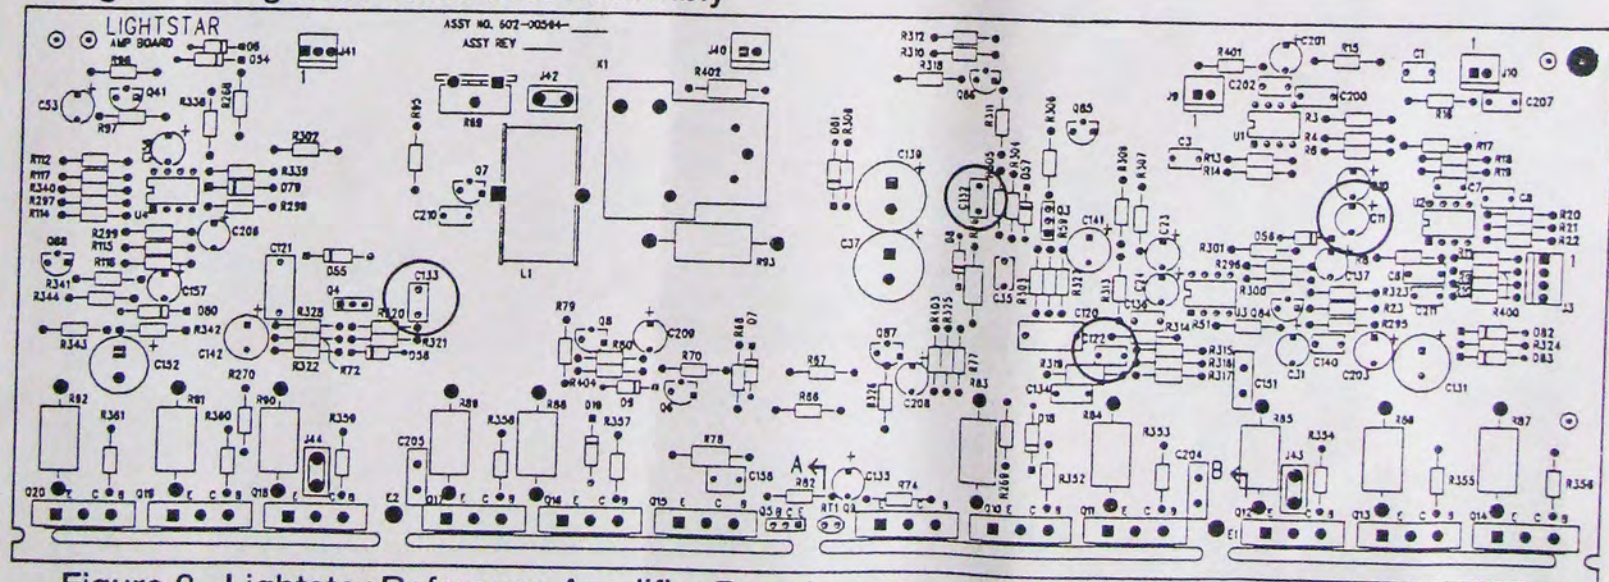

Figure 2 Lightstar Reference Amplifier Board
14. Replace C11, C122, C132 and C133 on each amplifier board (see Figure 2).